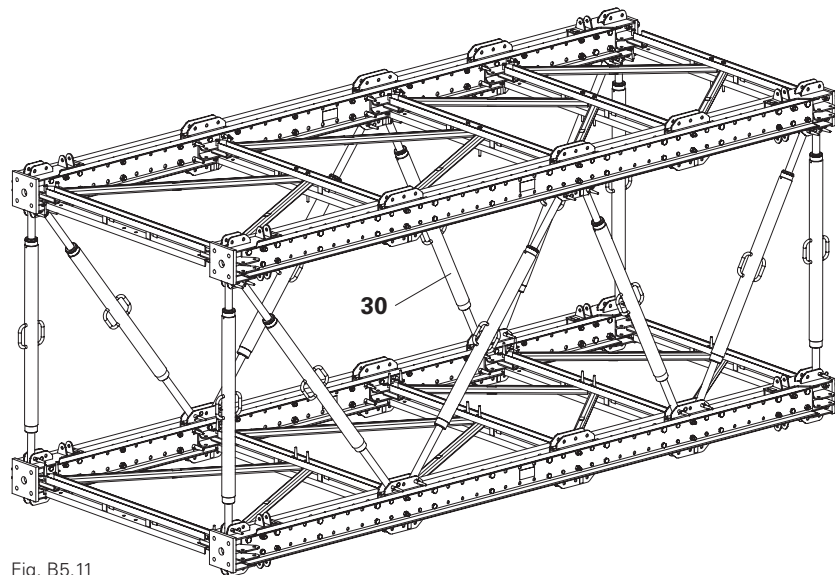

Fig. B5.11
1. Install the required number of heavy-duty spindles SLS (30) using fitting pins  $\varnothing$  21 mm (9). (Fig. B5.11)